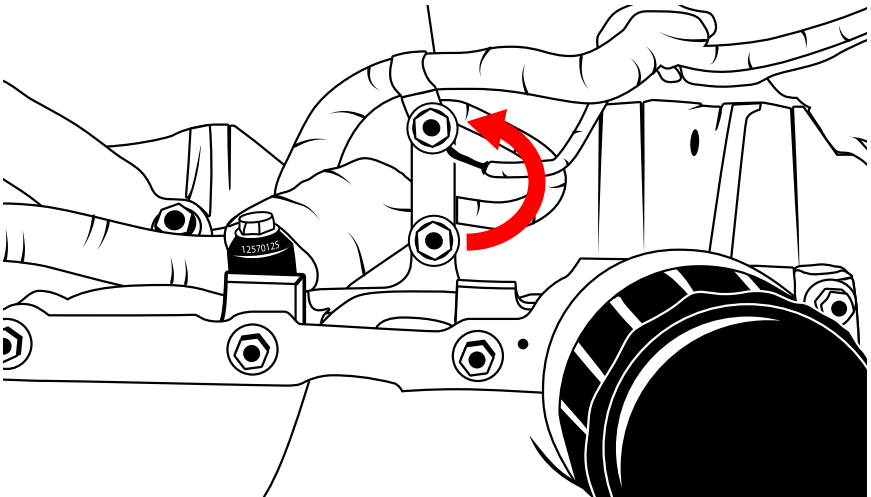

Figure 3 - Relocate the Wiring Harness and Orient the Knock Sensor as Shown
3. The wiring harness must be relocated to provide adequate clearance for the new oil lines. Loosen the screw securing the knock sensor to the block and remove the bracket securing the wiring harness to the block. Relocate the bracket to the screw hole directly above it, where the ground strap is secured, as shown in Figure 3. Reorient the knock sensor as shown in Figure 3 and retighten the screw.